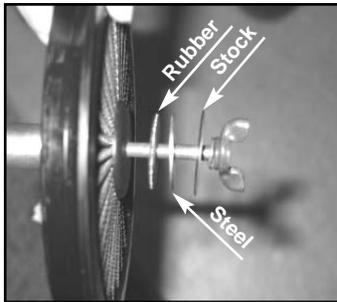

Fig. 5
7. Apply the provided washers onto wingbolt. The rubber washer will be against the XStream Top®. (Fig. 5)